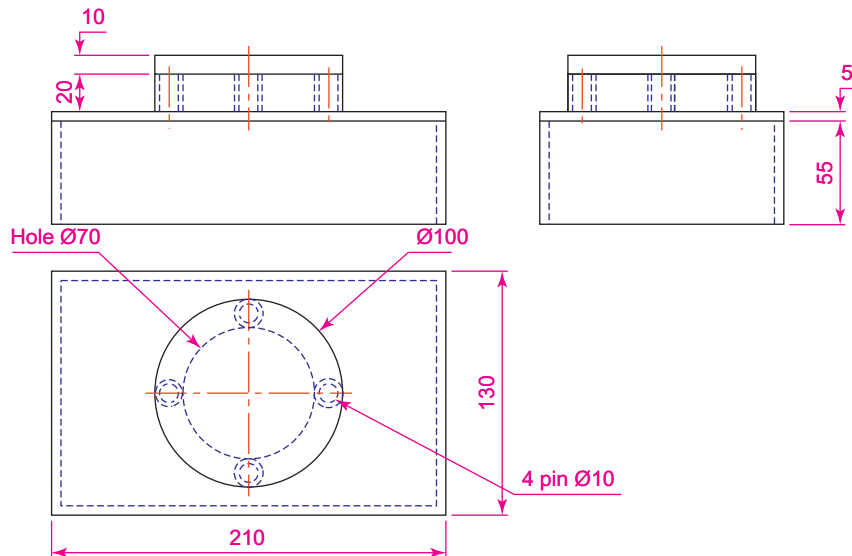

Fig. 14.27 Example – Section Plane – orthographic projection
1. Construct a 3D model to the information given in Fig. 14.27 on layers of different colours. Note there are three objects in the model – a box, a lid and a cap.